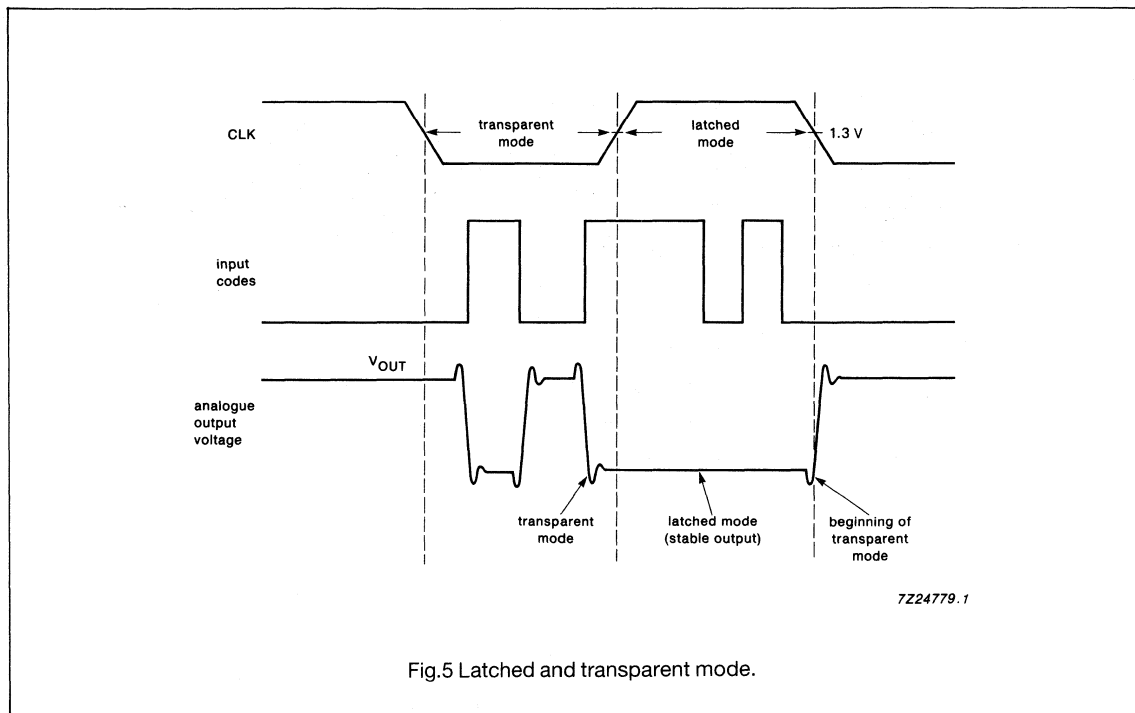

Fig.5 Latched and transparent mode.
4. The worst case characteristics are obtained at the transition from input code 0 to 255 and if an external load impedance greater than 75Ω is connected between V_{OUT} or $\overline{V_{\text{OUT}}}$ and V_{CCA} . The specified values have been measured with an active probe between V_{OUT} and AGND. No further load impedance between V_{OUT} and AGND has been applied. All input data are latched at the rising-edge of the clock. The output voltage remains stable (independent of input data variations) during the high level of the clock (CLK = HIGH). During LOW-to-HIGH transition of the clock (CLK = LOW), the DAC operates in the transparent mode (input data will be directly transferred to their corresponding analog output voltages, see Fig.5).
Note to Fig.5